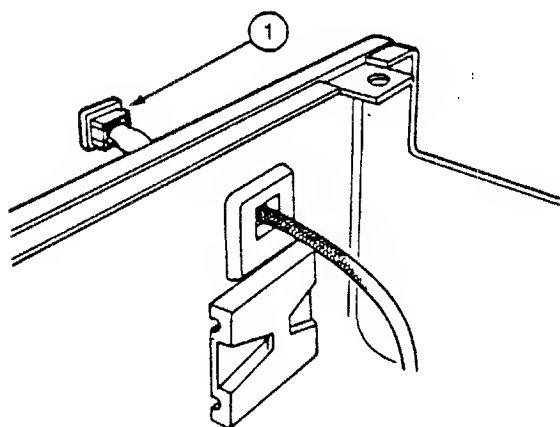

FIGURE 9
5. Gently push a few inches of the cable out through the slot in the cover, as shown in Figure 9.
6. Around the red LED is a small black plastic mount. Remove the mount (Figure 9, #1) by pushing out its side flaps and sliding it off the LED.
8. Thread the LED cable through the opening in the cover, and place the small black plastic mount on the LED (see Figure 9, #1). Then pull the cable back through the opening until the LED fits in its slot. Replace the "ready" label.